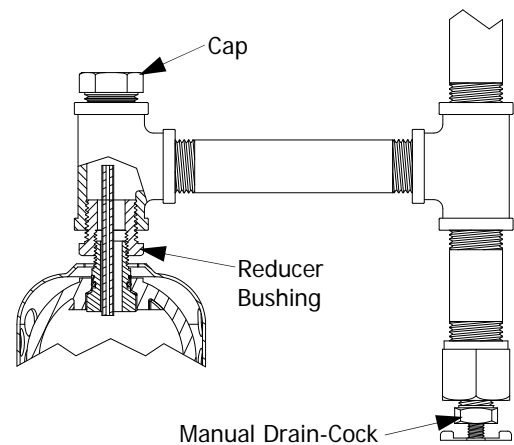

Figure 2. Drain-Leg System
3. Install Hydro-Jector by turning Adaptor (3) clockwise into vessel. A Reducer Bushing may be required. The Spacer (2) is NOT needed.
4. For Drain Leg, it is recommended to install the Hydro-Jector at an offset, as shown in Figure 2, to allow bulk solids to be manually drained.
5. Do NOT bend, crimp, or obstruct the Vent Tube (1).